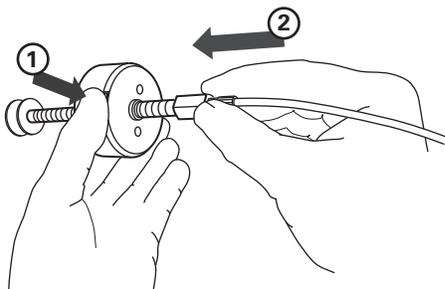

Figure 4-1 Press the lever and extend the plunger
2. Press the lever on the side of the cap and fully extend the plunger (Figure 4-1).